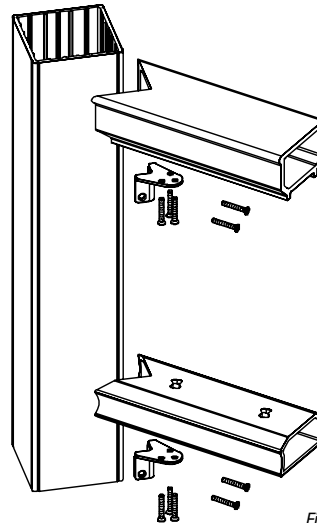

Figure 23
7. Align the angled brackets with the 90 degree cut in the railing. Inset the bracket 1/16" from rails end. Mark the three screw hole locations on both rails. Repeat at opposite end. Pre-drill 1/8" holes at desired locations (Figure 23).